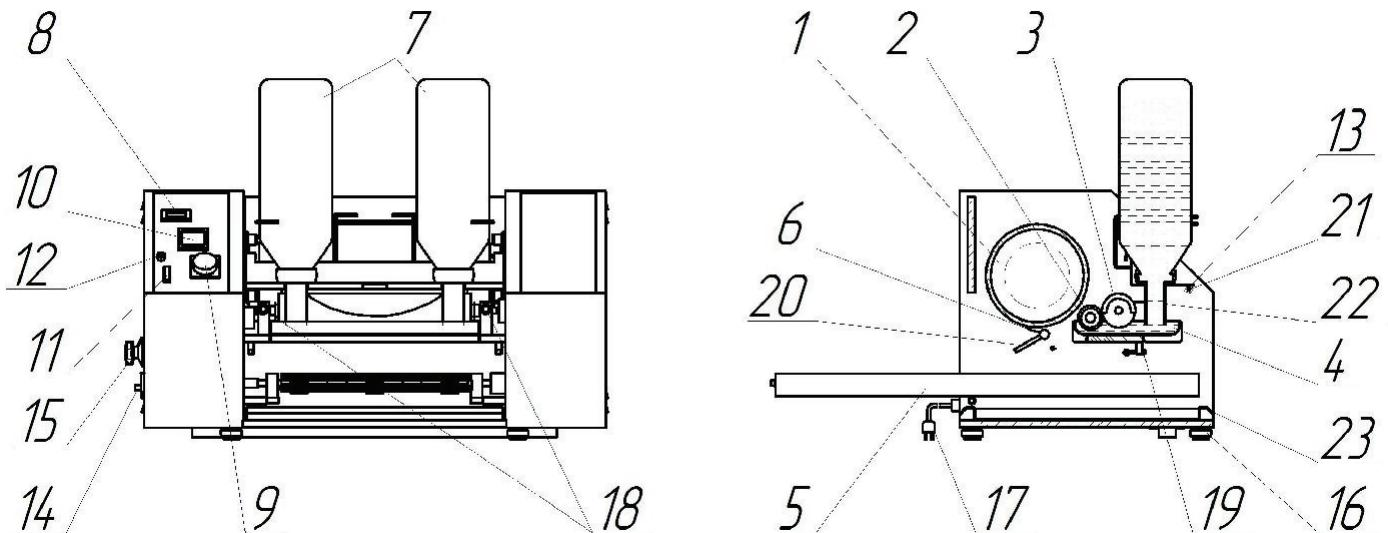

Fig.1. Pancake automatic machine PK-2.1
3.1 The following components are engaged into the technological process of pancake frying: frying drum 1, system of dough feed and pancake intermediate formation, knife 6 and conveyor 5 for pancakes stacking (see Fig.1).
- 4.1 Install the Machine on its place of operation, assuring its horizontal position by adjusting of feet 16 (see Fig.1). Remove protective film (if any) from Machine body parts and wipe accessible surfaces with a slightly wetted clean cloth.
- 5.3 After checking for absence of damages, insert the power cord plug of Machine 17 (see Fig.1) into a power outlet. You will need a one-phase three-wire AC mains (PE wire is a must). The connection parameters depend on the claimed rated power, power supply voltage and frequency.
5.9 Install the master form on its place (Photo 27). To do it, locate it on the supports with the stud to the right, pull holder knobs 18 one by one (see Fig.1) and put axles of the master form into saddles. At the same time, the master form stud should be located between the coupler pins (Photo 28).
5.15 When necessary, adjust the gap between the bolster and frying drum by screws 19 (see Fig.1, Photo 35). It should be appr. 0.6 mm. To control this gap, two probes 0.55 and 0.7 mm thick are applied to the Machine (Photo 36). Turning screws clockwise will increase the gap, turning screws counter-clockwise will reduce it. If there are rips in a pancake intermediate (too small amount of dough is transferred from the bolster to the frying drum) you may reduce the gap. If there are excess flows of dough and the pancake intermediate is too thick (too much dough) you may increase the gap.
- press arm of knife 20 (see Fig. 1) down (Photo 37) and hold it in this position until the stuck dough is completely removed;